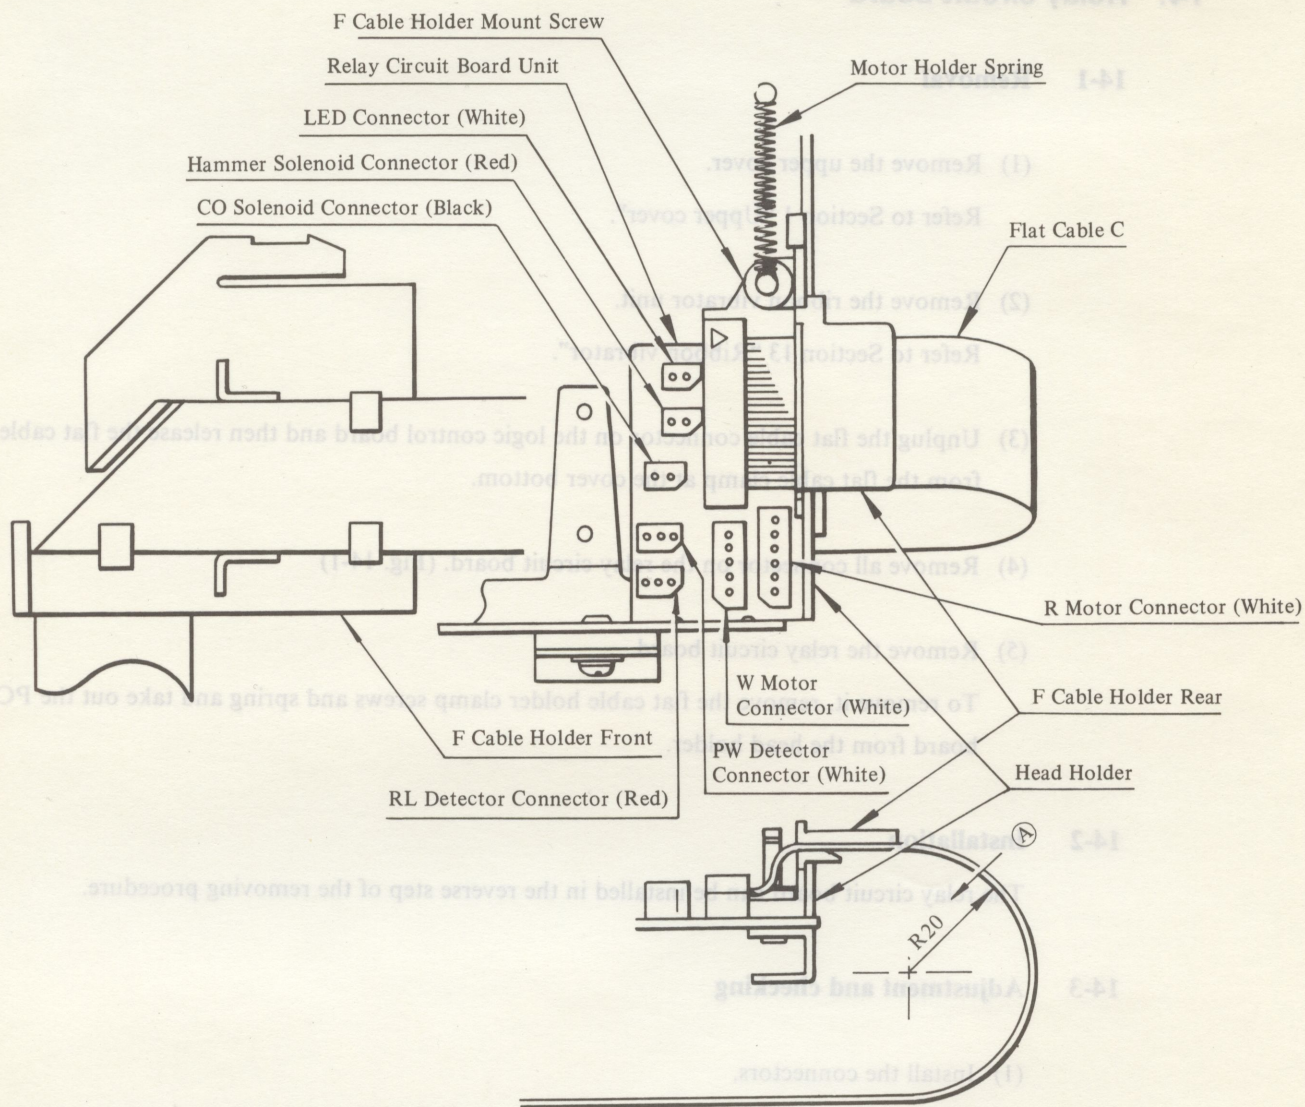

Fig. 14-1
- (3) Unplug the flat cable connector on the logic control board and then release the flat cable from the flat cable clamp at the cover bottom.
- (4) Remove all connector on the relay circuit board. (Fig. 14-1)
- (5) Remove the relay circuit board